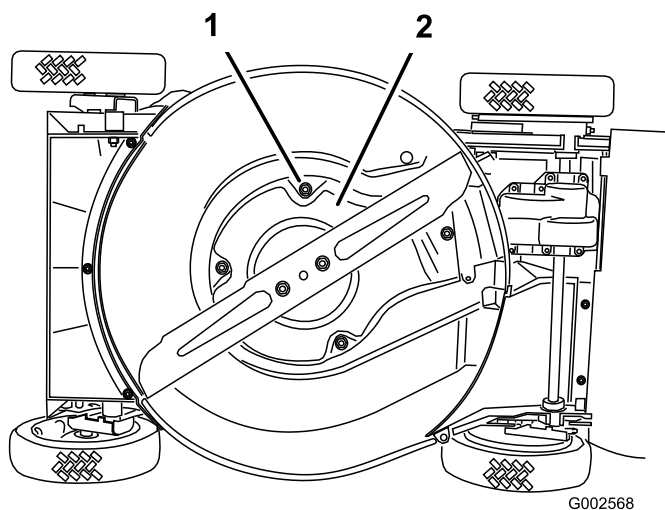

Figure 35
6. Remove the 4 screws that hold the shield in place (Figure 35)..